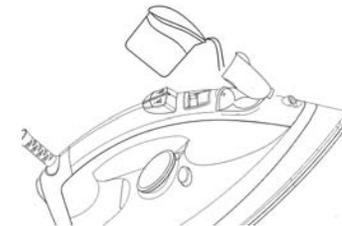

Fig. 2
1. Open the water filling inlet cover. (Fig. 2)
5. Slide the variable steam control lever towards the “” (steam) symbol to increase the amount of steam. (Fig. 2) When using extra steam, the iron uses more water and it may be necessary to fill the water reservoir more often.